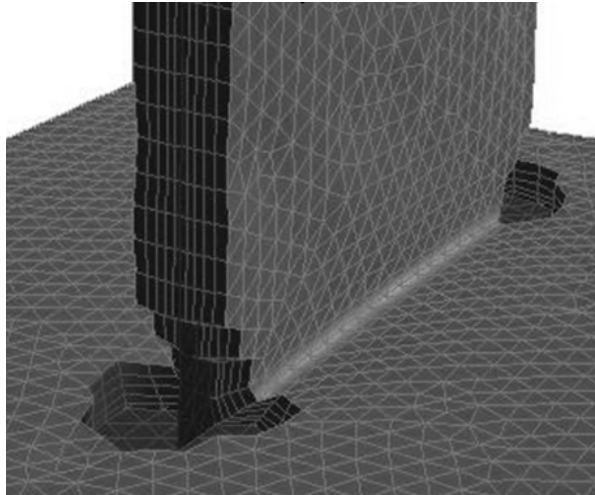

Figure 10.3.2: Prism Growth on a Dangling Wall
4. Click Create. See Figure 10.3.2 for details.